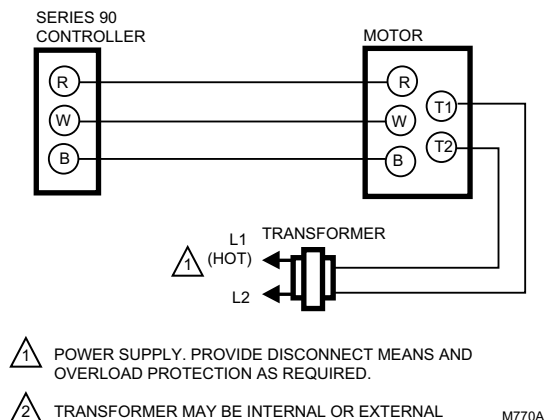
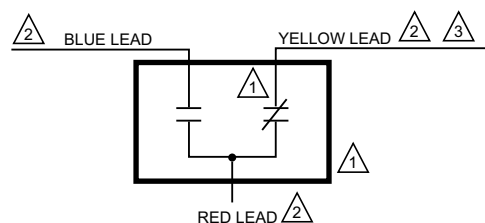

Fig. 5. Typical Series 90 Wiring.
Fig. 7. Auxiliary Switch Schematic.
5. Refer to Fig. 5 for typical wiring, and Fig. 7 for internal auxiliary switch connections.
Motors with factory-added auxiliary switches are shipped in the closed position (fully counterclockwise, as viewed from the power end). Auxiliary cam default actuates the switches 30° from full open with a 1° differential. With the motor in the closed (fully counterclockwise) position, the auxiliary switch breaks contacts R-B. Refer to Fig. 7 (or the auxiliary switch Instruction Sheet) for auxiliary switch wiring.